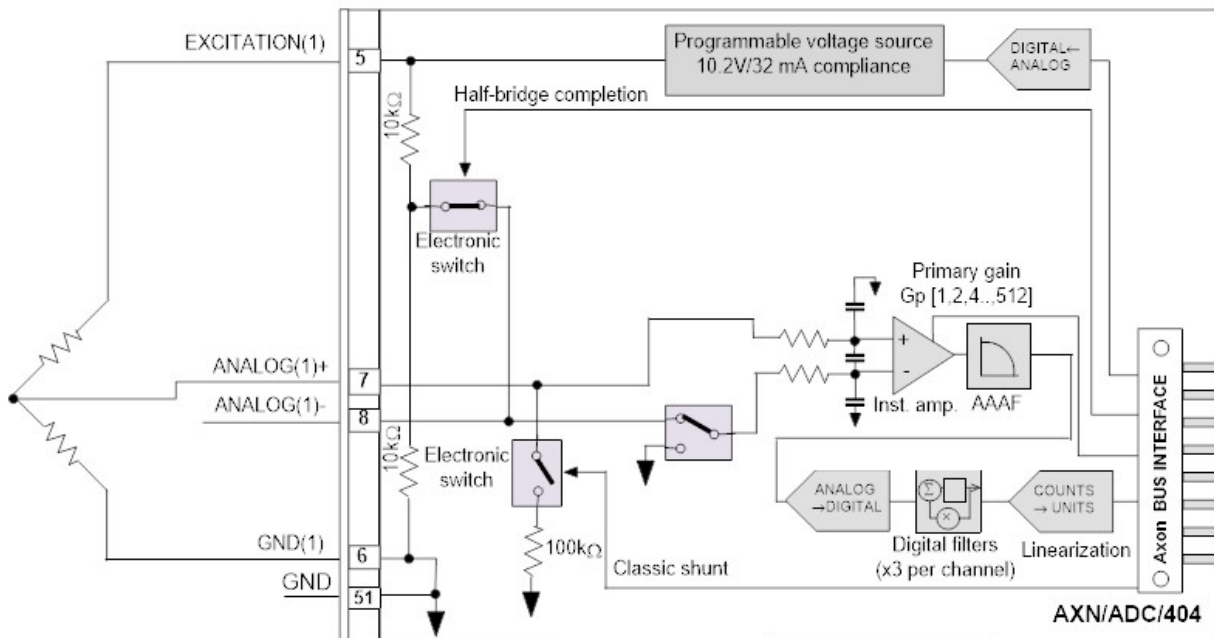

Figure 3: Second channel in half-bridge configuration, with matched pair of internal completion resistors enabled
**NOTE:** For the AXN/ADC/404, internal completion resistors can be enabled by setting Input Mode to Half-bridge (see Figure 3 on page 10).